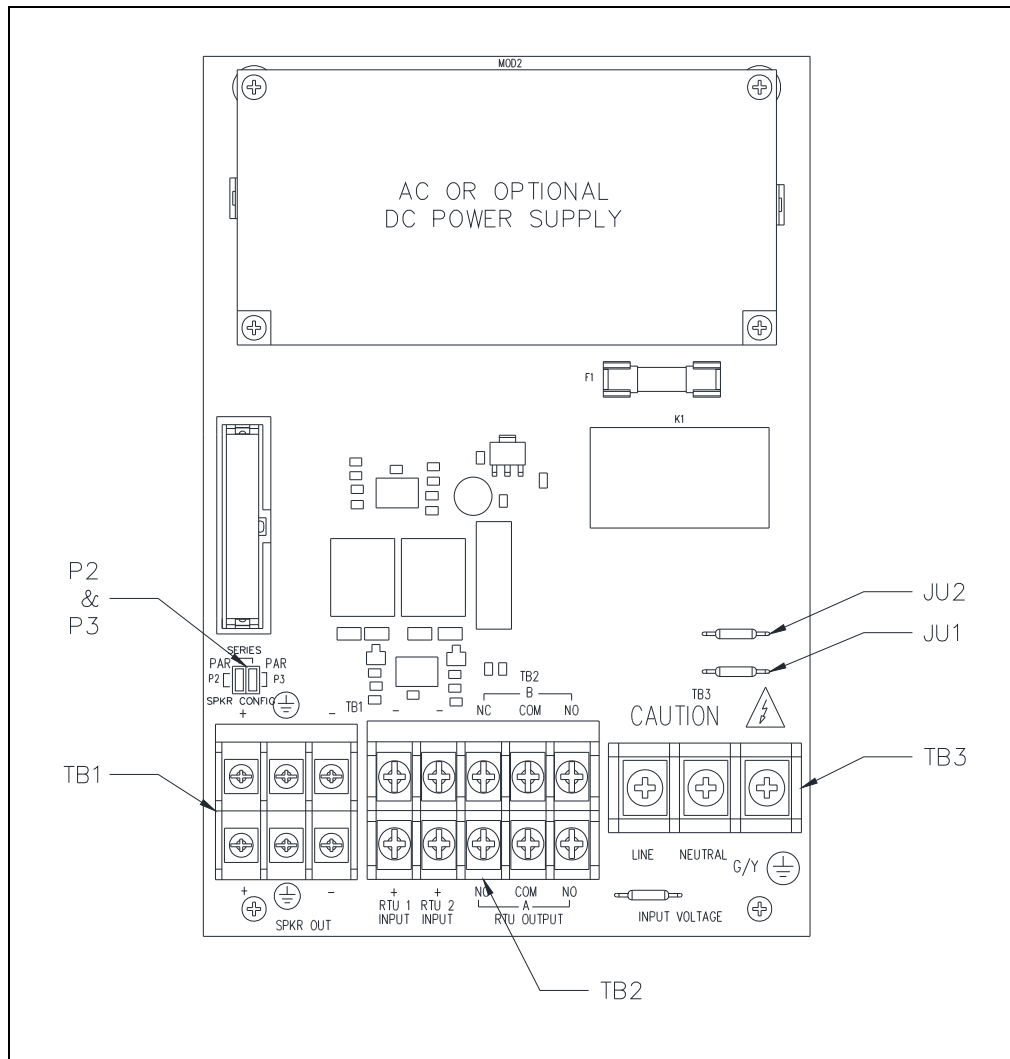
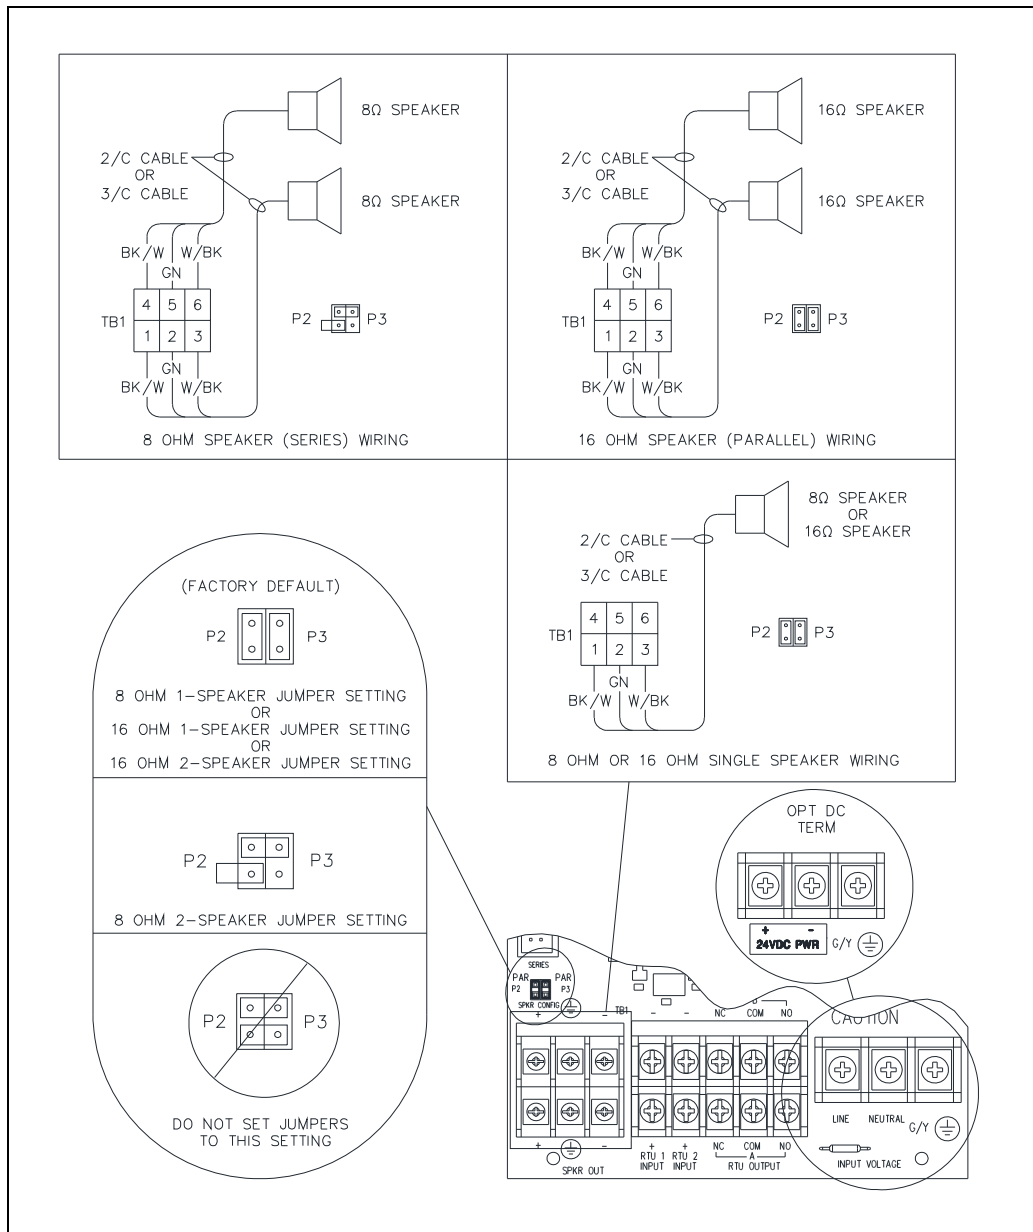
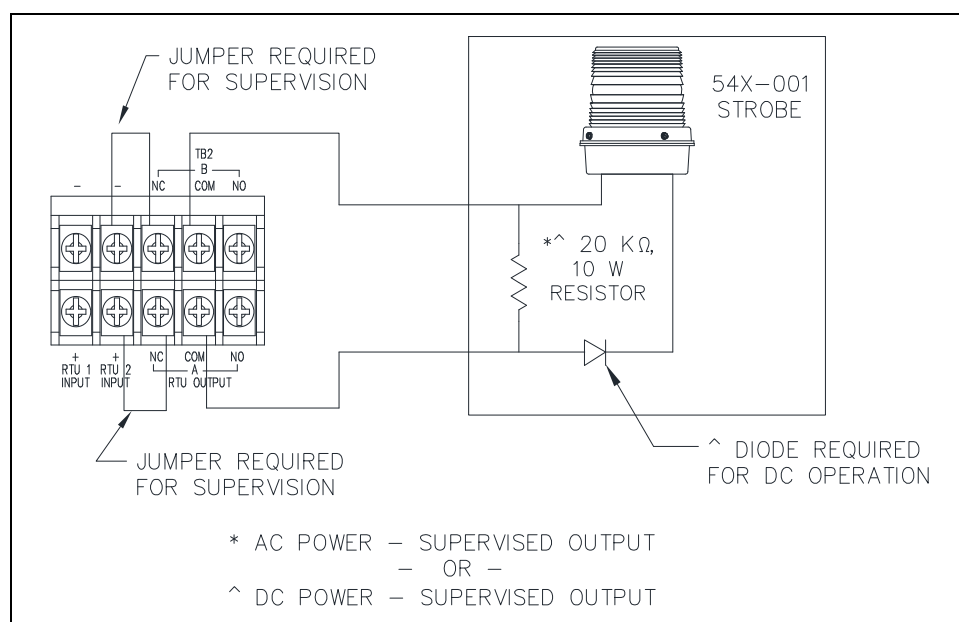

Figure 4. SP2 Termination PCBA
Figure 5. 8/16-ohm Speaker Impedance Configuration and AC/DC Termination at TB3
Figure 7. Supervised Output Wiring—TB2
5. Configure the speaker jumpers; P2 and P3, for the appropriate impedance for use with 8-ohm or 16-ohm speakers (see Figure 4 and Figure 5).
The standard termination PCBA contains two auxiliary RTU inputs. Terminate the inputs at terminal block TB2 (see Figure 4).
Two form C contacts are provided to power a beacon (see Figure 7). Terminate the output at terminal block TB2 (see Figure 4). Configure the output for dry contact use by removing jumpers JU1 and JU2.
5. Install a 20-kilohm 10-watt resistor across the terminals of the beacon (see Figure 7).
6. Install jumpers at TB2 to enable cable monitoring (see Figure 7).
The ac or optional dc power supply is on the termination PCBA. Connect the local ac or dc power source to terminal block TB3 (see Figure 4 and Figure 5):